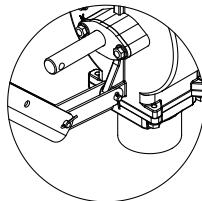

Figure 2
2. Attach the free ends of the links to the bottom, outer surfaces of the handle. Insert a long clevis pin through the holes on both links and the lowest hole on the handle. Secure with a small cotter pin. (FIGURE 2)